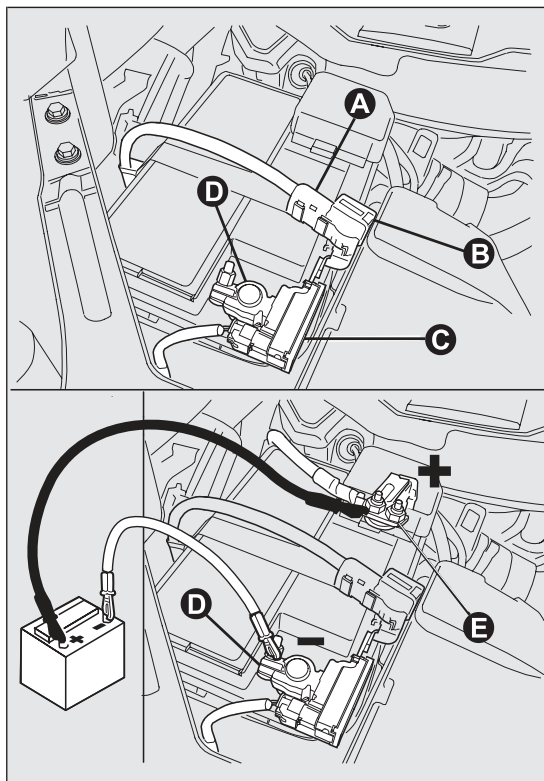

fig. 194
- ☐ disconnect the connector A fig. 194 (pressing the button B) from the sensor C monitoring the battery conditions, on the negative pole D of the battery;
- ☐ after having disconnected the battery charger, reconnect connector A fig. 194 to the sensor C as shown.